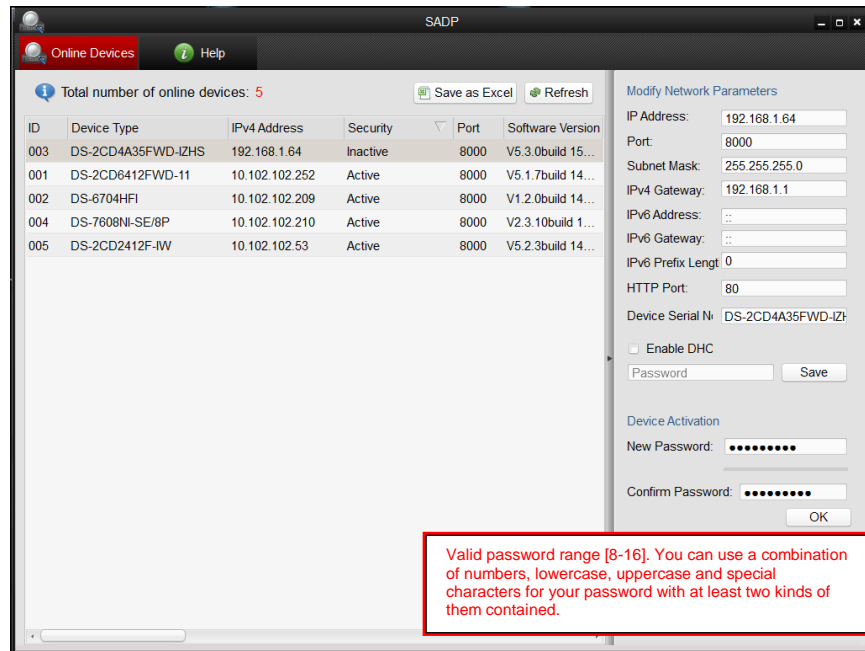
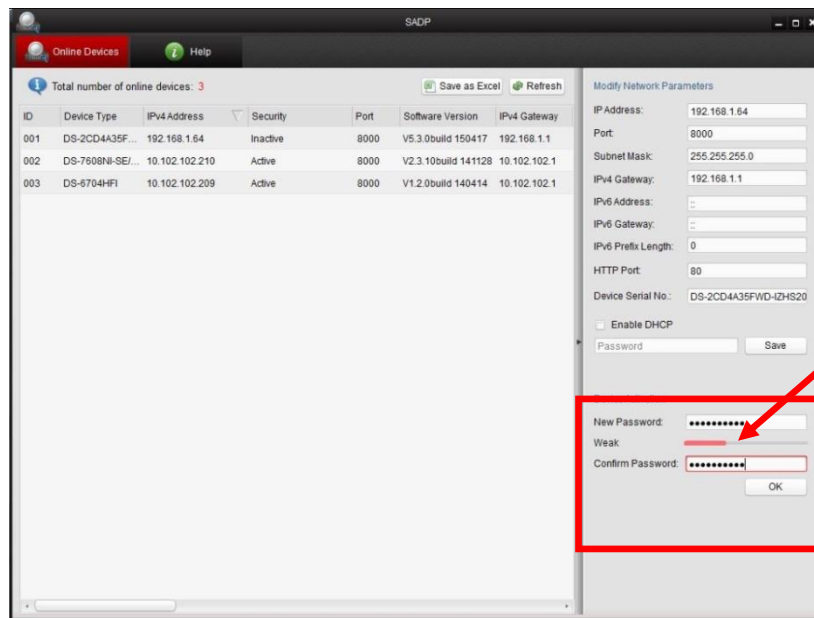
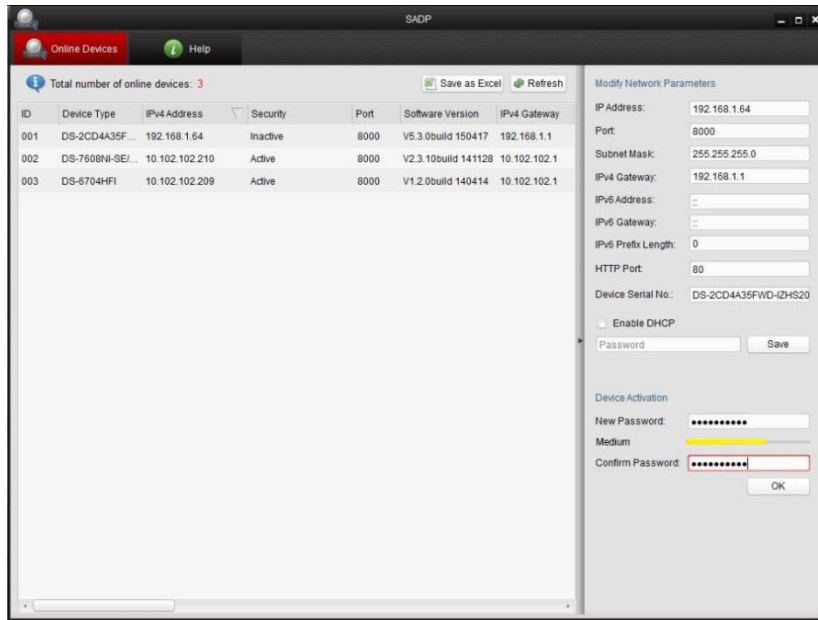
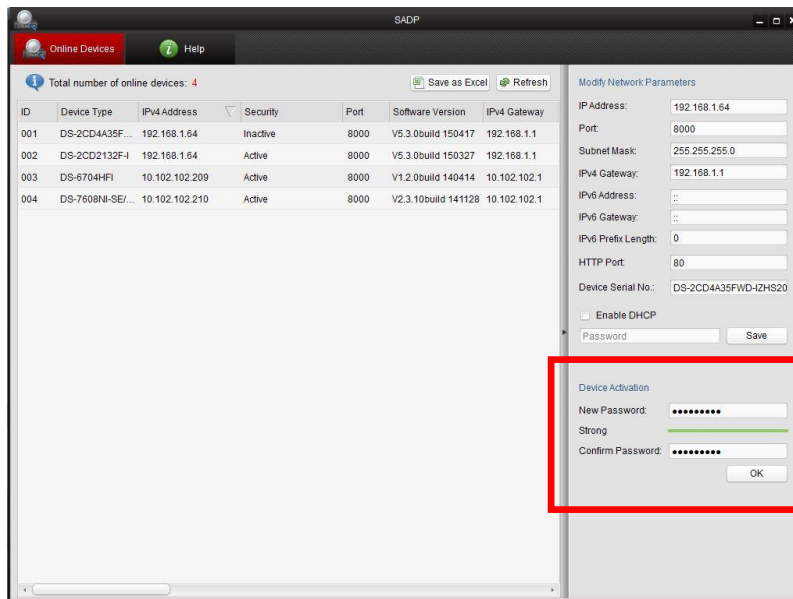

Figure 24 “Risky” Unacceptable Password Warning Message
Figure 25 Password Field with Weak Strength Password
Figure 26 Password Field with Medium Strength Password
Figure 27 Password Field with Strong Strength Bar
- Activation will not be allowed unless the password is of acceptable strength (**Figure 25, Figure 26, Figure 27**). If the password is unacceptable strength ("Risky," **Figure 9**), a warning box will be displayed (**Figure 10**).
- Bar length indicates strength level (**Figure 24**).
- Activation will be allowed if the password is of acceptable strength (**Figures 26, 27, 28**). A white checkmark will appear in a green circle to the right of the password field.
- If the password is unacceptable strength ("Risky," **Figure 24**), a white X will appear in a red circle to the right of the password field and a warning dialog box will be displayed (**Figure 25**) explaining the requirements for an acceptable password.